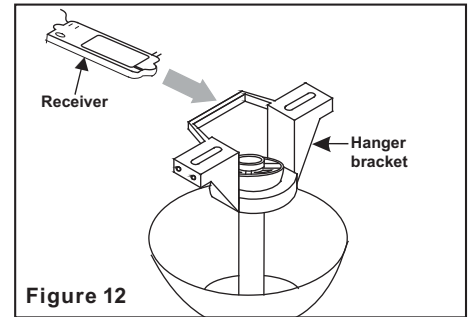

Figure 12
**Step 1.** (Figure 12) Insert the receiver into the mounting bracket with the flat side of the receiver facing the ceiling.